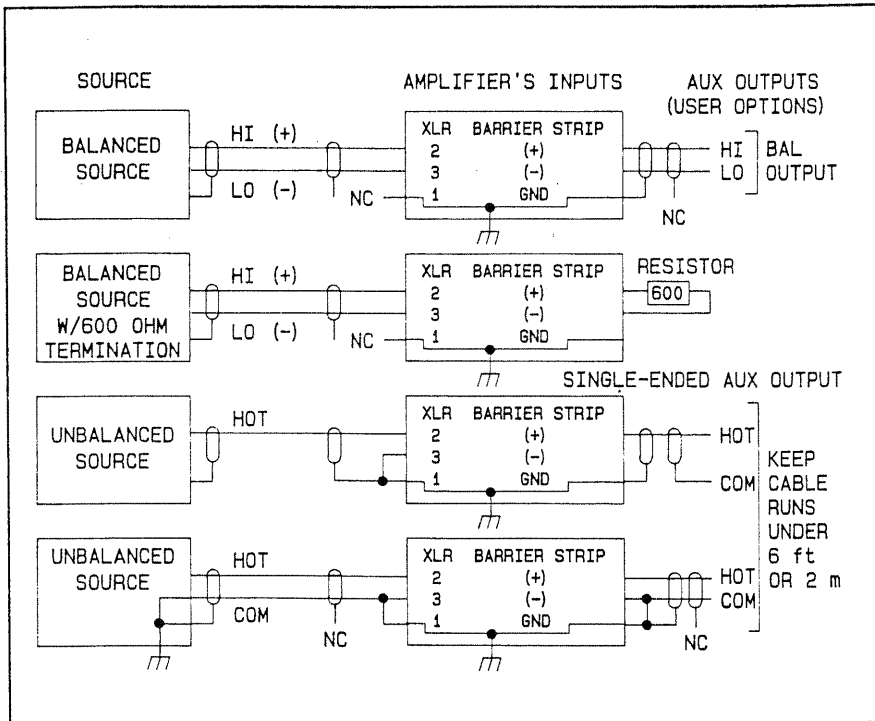

Figure 3 Typical Input Connections
Balanced input connections may be made to either the ¼" phone (TRS) or the female XLR connectors. For single-ended inputs, strap the low (—) input to ground (pin 3 on XLR or Ring on ¼" phone). Otherwise, the electronically-balanced input stage will see 6 dB less input signal level than with a balanced input. Refer to Figure 3 for typical input connections.
ment. Refer to Figure 3 for possible applications.
2. Verify that the input connections are properly made. Refer to Figure 3.